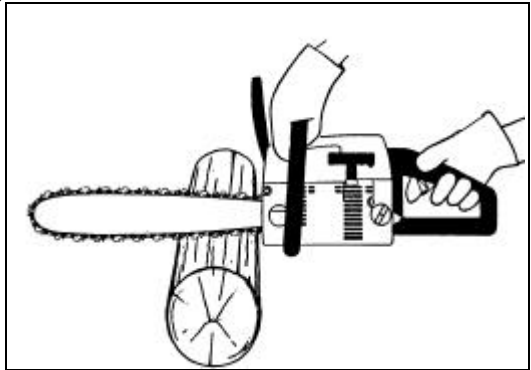

Fig 4-2-5 Starting a Cut
12. **Basic Operating Technique.** The chainsaw is operated with the right hand holding the pistol grip and the left hand grasping the handle. The chain must be rotating freely at maximum revolutions. The base of the chain is then laid on to the timber with the guide bar pointing slightly upwards (Fig 4-2-5). The cutting action of the chain will pull the saw forward so that the sprags bite into the timber. The sprags then act as a fulcrum while the saw is pivoted downward.